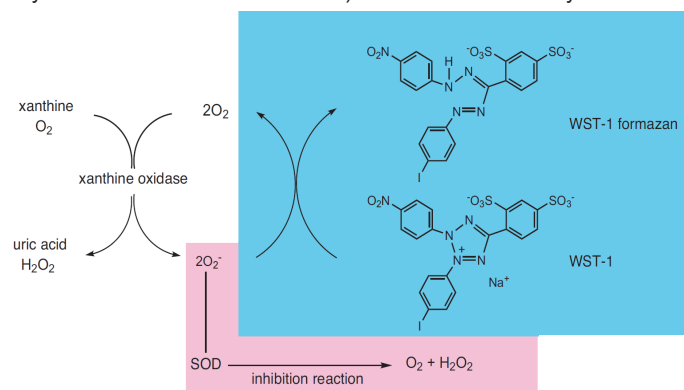

Fig.1 Principle of the determination of SOD activity using SOD Assay Kit - WST
Superoxide dismutase (SOD), which catalyzes the dismutation of the superoxide anion ( $O_2^{\cdot -}$ ) into hydrogen peroxide and molecular oxygen, is one of the most important antioxidative enzymes. In order to determine SOD activity, several direct and indirect methods have been developed. Among these methods, the indirect method using nitroblue tetrazolium (NBT) is commonly used due to the convenience and ease to use. However, there are several disadvantages in the NBT method, such as poor water solubility of the formazan dye and the interaction with the reduced form of xanthine oxidase. SOD Assay Kit-WST allows very convenient SOD assay by utilizing Dojindo's highly water-soluble tetrazolium salt, WST-1 (2-(4-iodophenyl)-3-(4-nitrophenyl)-5-(2,4-disulfophenyl)-2H-tetrazolium, monosodium salt) that produces a water-soluble formazan dye upon reduction with the superoxide anion. The rate of the reduction of WST-1 with  $O_2^{\cdot -}$  are linearly related to the xanthine oxidase (XO) activity, and this reduction is inhibited by SOD, as shown in Fig. 1. Therefore, the  $IC_{50}$  (50% inhibition activity of SOD or SOD-like materials) can be determined by the colorimetric method (Patent filing).